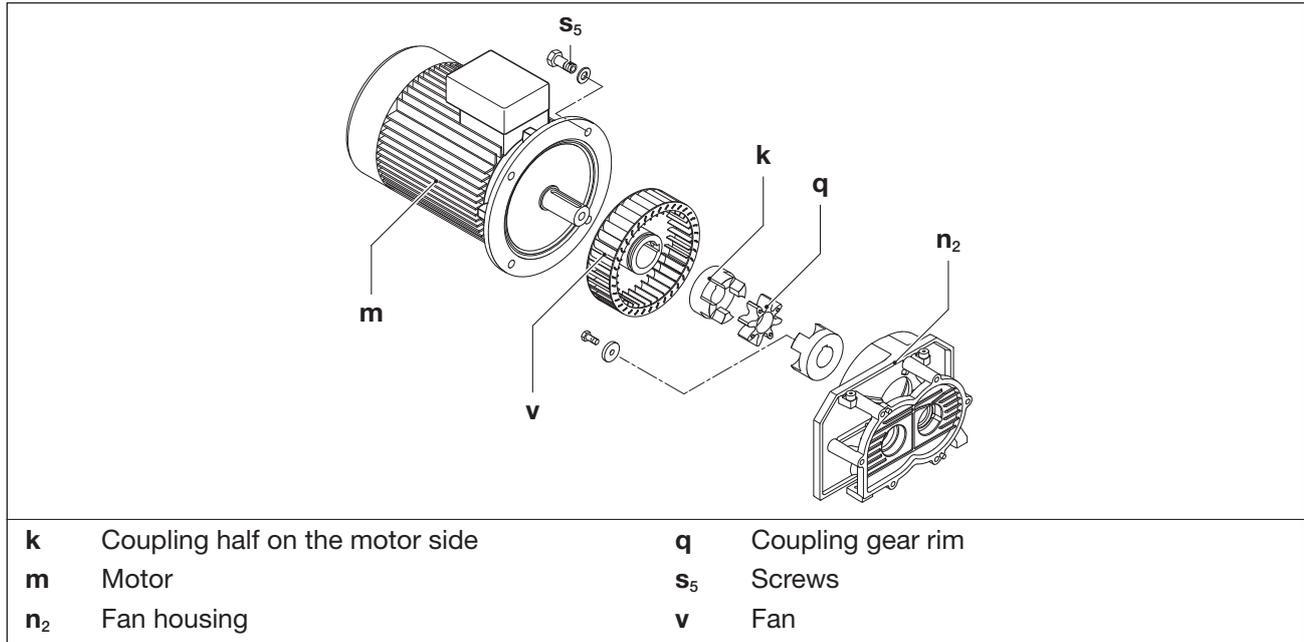

Fig. 11 Coupling
The coupling sprocket (Fig. 11/q) is subject to wear and must be checked regularly (at least 1 x per year). The fan (Fig. 11/v) should also be checked for damage from time to time.
- Hang the motor (Fig. 11/m) in the transportation lashing using a hoisting gear.
- Release the screws (Fig. 11/s5) on the motor flange and axially pull the motor with the half of the coupling on the motor side (Fig. 11/k) off the fan housing (Fig. 11/n2).
- Check the sprocket (Fig. 11/q). If the sprocket is damaged or worn, replace it.
- Check the fan (Fig. 11/v) and replace it, if necessary.
- Axially push on the gear rim and motor with coupling half on the motor side again and fix to the motor flange using the screws (Fig. 11/s5).